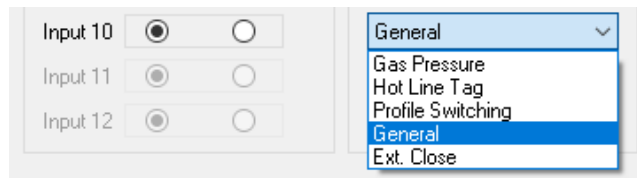

Figure 38 Intrusion Detection Input 10 Setting Screen
- Using S-7600 IPScom **Setup/Configuration/Relay/Input**, assign **Input 10** as General (Figure 38).